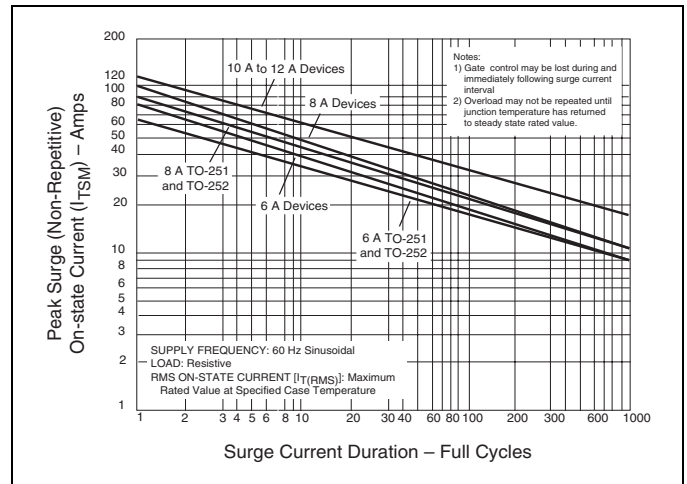
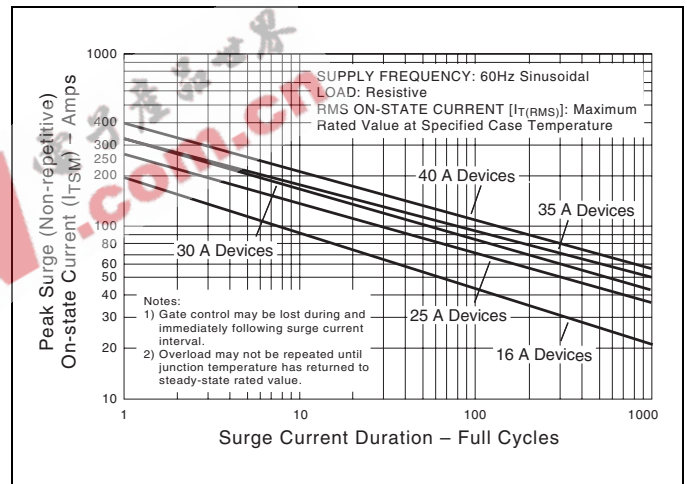

Figure E4.10 Peak Surge Current versus Surge Current Duration (6 A to 12 A)
Figure E4.11 Peak Surge Current versus Surge Current Duration (16 A to 40 A)
- See Figure E4.10 and Figure E4.11 for surge rating with specific durations.